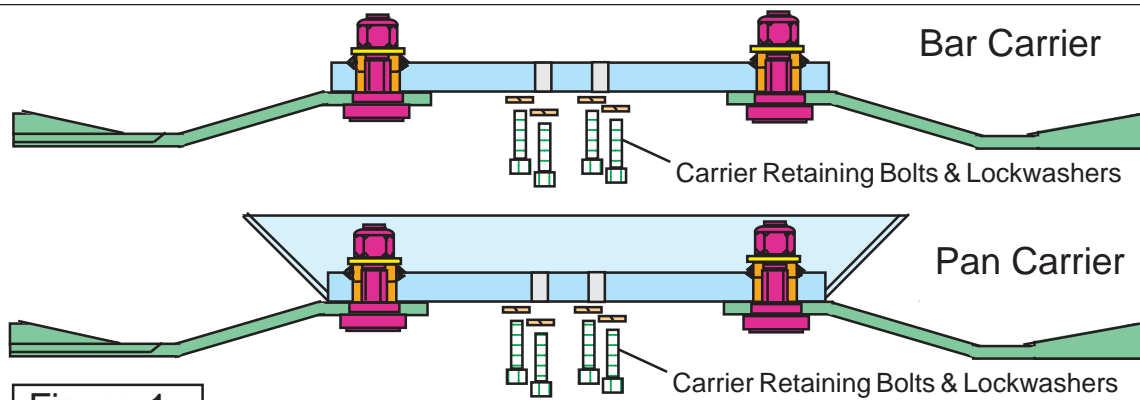
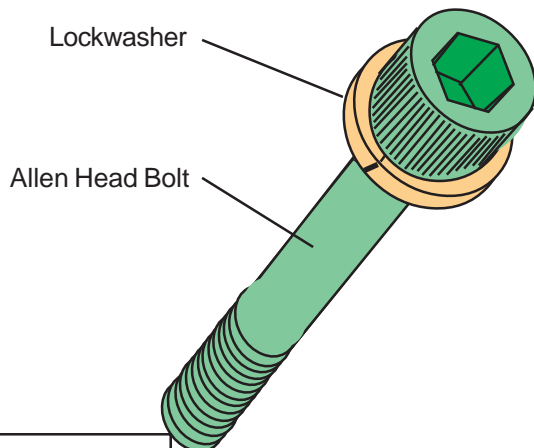

Figure 1
Figure 2
2. There are blade carriers option of bar carrier or pan carrier (figure 1). The basic mounting design of the connecting blade carriers to the spindles are the same, and will follow the same directions even with the fact some of the components are different.
3. Blade Carrier Spindle Mounting Bolts, These bolts hold the blade bar onto the spindle and must be torqued when being installed. These are high strength Allen head bolts (figure 2) and should be replaced with the proper length of bolt, never install a longer bolt than was removed. If longer bolts are installed damage will occur. Always replace the lockwasher (figure 2) when reinstalling the bolts, it is not recommended to use the lockwashers twice. When changing or installing a blade bar, place one drop of Loctite on threads of each bolt before installing it in place. Tighten the bolts diagonally (in an X pattern) to assure that the blade bar pulls up evenly. Torque the bolts to 400 ft./lbs.(figure 3) in increments, example 300 ft lbs then 350 ft lbs, then the last to 400 ft lbs. This will help to make certain the blade carrier is pulled up evenly to the spindle..
2. Tractor Draw Bar connection, the mower must be connected to the tractor draw bar before the mowing height can be adjusted. This mower uses a swinging clevis that is designed to be bolted to the draw bar (**figure 1**). This Bolt, Washers and Locknut was supplied with mower and should be replaced with same components it required. The tongue clevis must be connected to the tractor draw bar using this bolt, washer and lock nut (**figure 2**). The tongue clevis will not operate correctly with using a drop pin (**figure 3**). The drop pin will cause damage to the clevis and draw bar. Some drawbars will have a hole that is larger than the bolt in the clevis, it is recommended these holes be fitted with a connex bushing to adapt the draw bar hole to the size of the bolt to hold the clevis as parallel to draw bar as possible (**figure 2**). The spring washers also act as wear washers, the qty of washers will vary from tractor to tractor but all need to have washers between clevis and draw bar for wear. (**figure 1 & 2**). Tighten the Nut onto the Bolt (**150ft./lbs.**) so that it holds the Clevis parallel with the draw bar (**figure 2**).
4. To set the Mower cutting height and/or level the Mower from front to rear, position it on level ground. Attach the Mower to the tractor with the Bolt, Nut, and Washers provided with the tongue (**see Step 2**) and (**figure 1, 2 & 3**). Make certain to tighten the locknut onto the Bolt (**150 ft. lbs.**) so that it holds the Clevis parallel with the draw bar. (**figure 2**)
- Inspect the tongue clevis (figure 1 through 3) and the control rod components (figure 4 & 5) to make certain the components are correct and the mower is connected to the tractor draw bar correctly (figure 2).